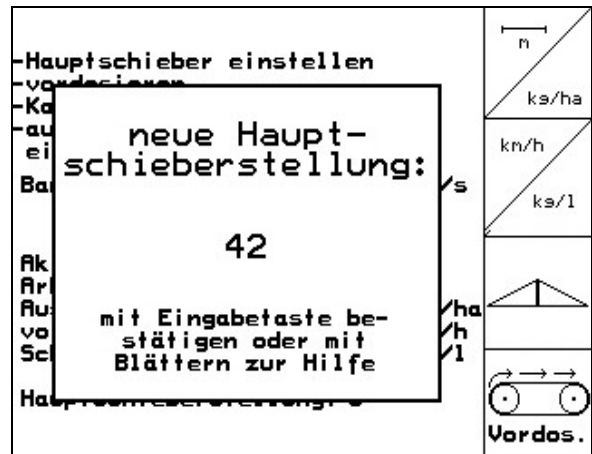

Fig. 14
- A new main slider position is calculated and displayed (Fig. 14).